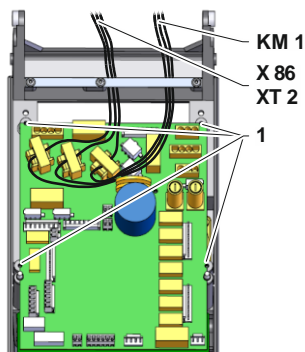

Fig. 8: Front panel hinged down
- Install GIF-51 (A 4) and affix using the screws (label 1 → Fig. 8).